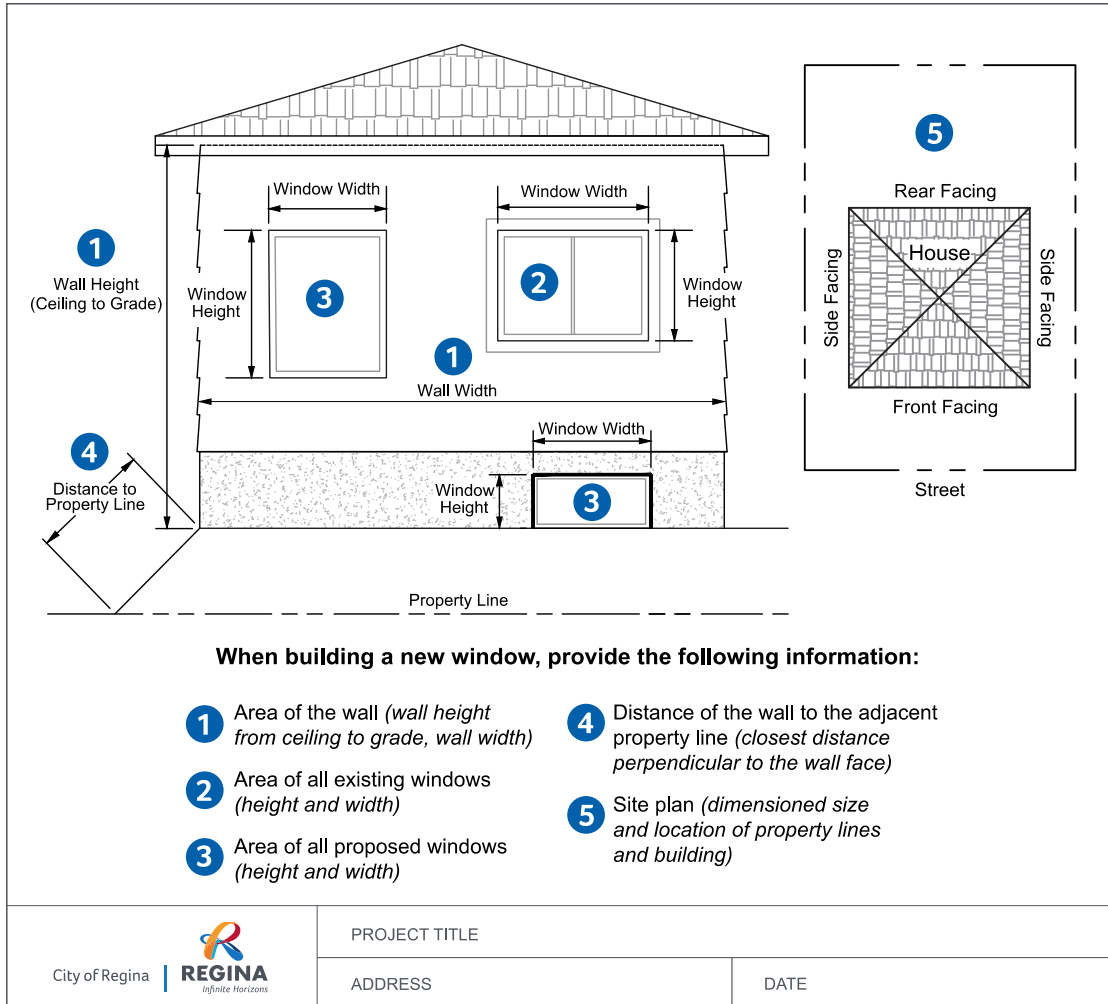

Figure 3 - Sample Window Elevation
- length and height of wall (measured from grade to uppermost ceiling) (see Figure 3, Item 1)
- location and size of all existing windows on each wall with a new or altered window (see Figure 3, Item 2)
- distance to property line (measured perpendicular to wall face) (see Figure 3, Item 4)